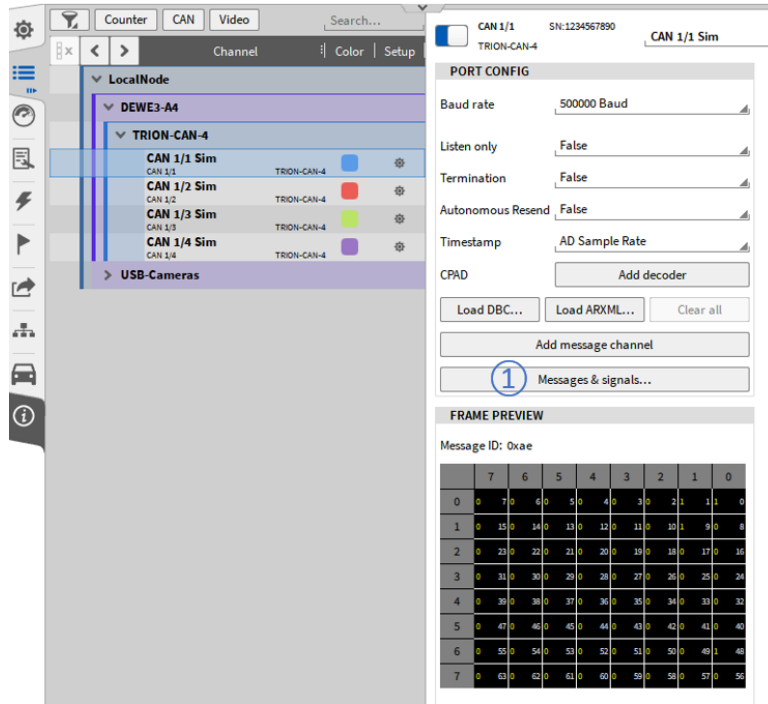

Fig. 7.195: CAN port configuration
Instead of using .dbc or .arxml files for data decoding it is also possible to add CAN messages and signals manually. OXYGEN provides a CAN editor for this purpose which can be opened by pressing the **Messages & signal** button the CAN port configuration (see ① in Fig. 7.195):